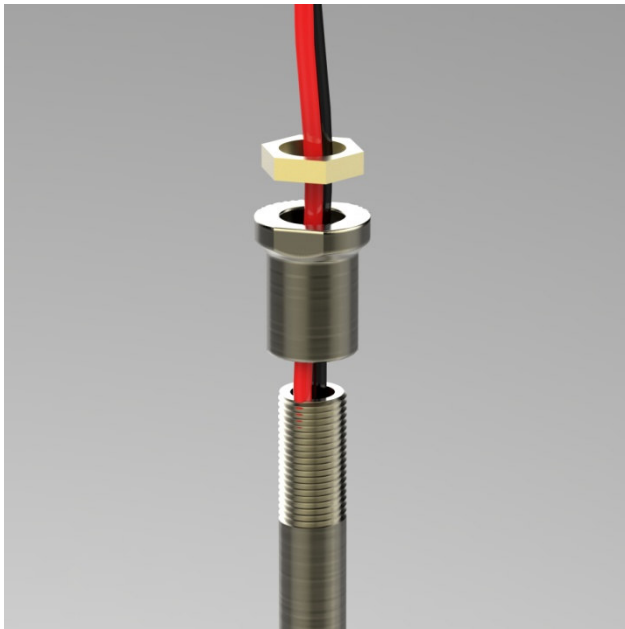

Figure 4
- With canopy resting on fixture assembly, thread shouldered anchors to tops of stems. (Figure 4)